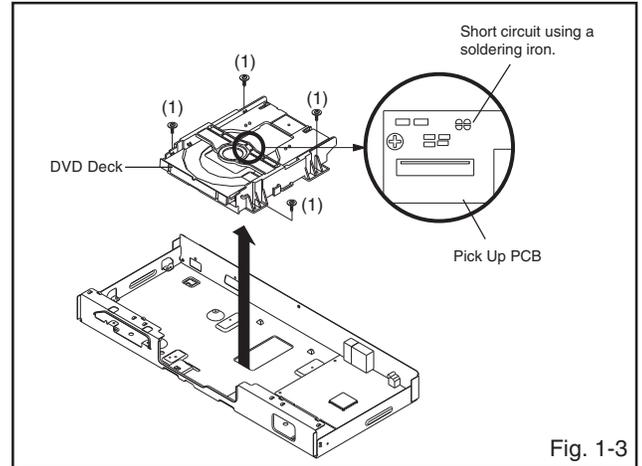

Fig. 1-3
1-3: DVD DECK (Refer to Fig. 1-3)
1. Short circuit the position shown in **Fig. 1-3** using a soldering iron. If you remove the DVD Deck with no soldering, the Laser may be damaged.
3. Remove the 4 screws (1).